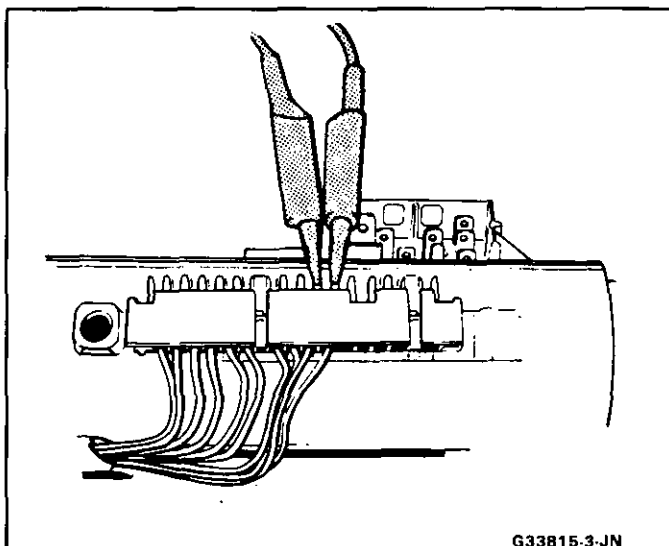
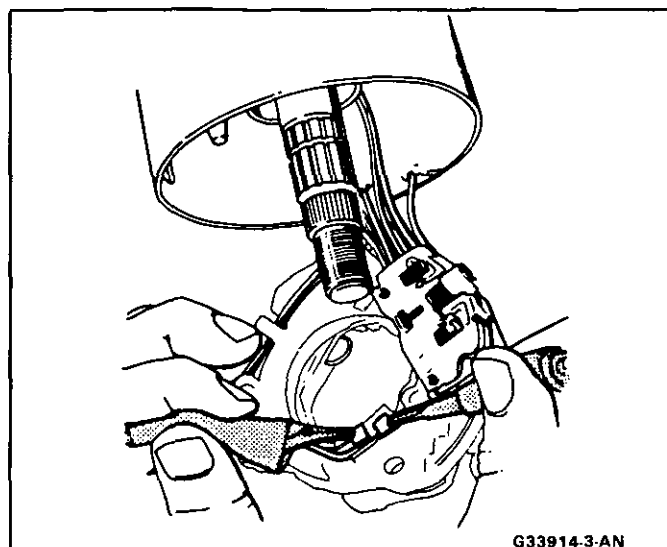

Fig. 2 Checking Reminder at Column Connector
Fig. 3 Checking Reminder Switch Pads
- A. Connect a continuity meter (light) to the male "E" and "F" connector contacts (Fig. 2). Push the key all the way into the lock cylinder. If the light is on when the key is in, and off when the key is out, the function is normal. If the light is not on, the fault is in the column. Go to Step B.
3. Short or fault in the turn signal switch wiring. Connect male "E" and "F" contacts of connector with jumper (Fig. 2). Check reminder switch pads with continuity meter (Fig. 3). If contact is made, the function is normal. If not, replace the turn signal switch.
6. Damaged lock cylinder. With the lock cylinder removed, push the key all the way in, then remove it. The actuator tip (Figs. 3 and 5) should extend and retract smoothly. Total extension of tip should be 1.27 mm (.050"). If not, replace the lock cylinder. Remove and clean as required. Reassemble and recheck per Step 4.
- A. This condition indicates the lock cylinder or the reminder switch is at fault. To verify, check for continuity at the "E" and "F" male connector contacts, with the key removed from the lock cylinder (Fig. 2). If continuity exists, the fault is in the column.